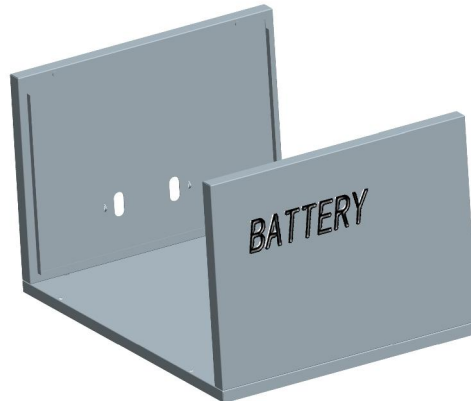

Fig. 1
Step 1. Installing the bottom plate and the front/back stand plate as shown in Fig.1.